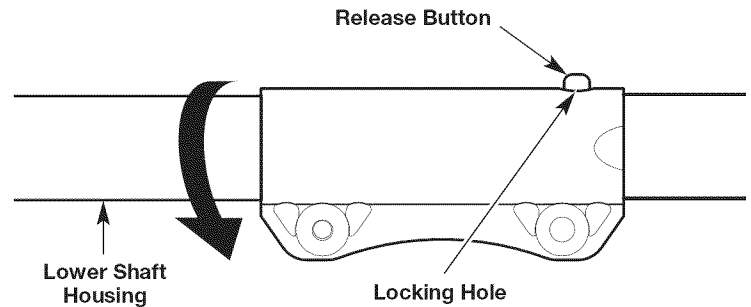

Fig. 10
6. Rotate the lower shaft housing until the release button snaps firmly into the locking hole (Fig. 10).